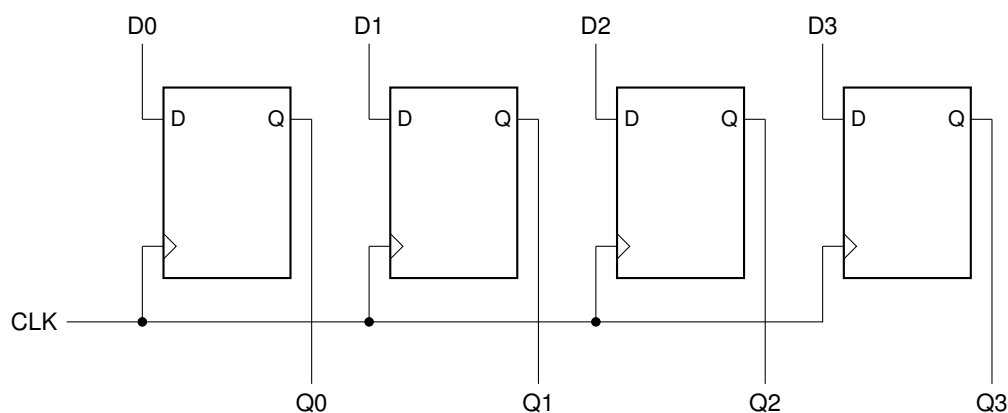

Figure 5.5: Schematic of a 4-bit parallel in / parallel out (PIPO) register.
**Parallel in / parallel out (PIPO)** registers are used in general purpose I/O registers, among other applications. Data is immediately made accessible to all flip-flops simultaneously. In addition, all of the outputs are immediately available. At each clock cycle, the outputs are updated to reflect any new data available on the inputs. PIPO shift registers are available that have control signals to either parallel load the data or to shift data in either direction. A schematic of a 4-bit PIPO (non-shift) register is shown in Figure 5.5.